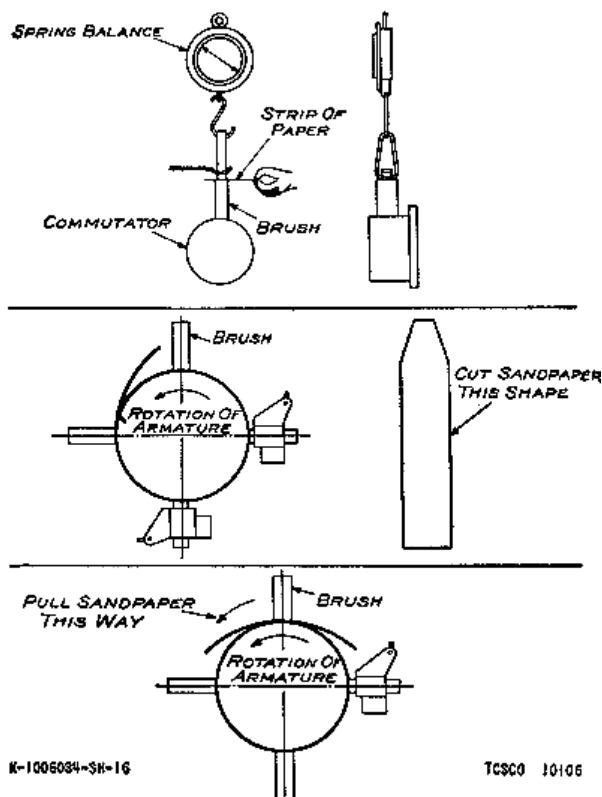

Figure 12. Method of sanding and obtaining brush pressure.
- (4) When a complete set of brushes is to be fitted, and where conditions permit, wrap a piece of sandpaper around the commutator and rotate the armature in the proper direction, the sandpaper being held in place so that it rotates with the commutator. Refer to figure 12 for method of sanding.
- (5) Proper brush pressure should be maintained, as specified in paragraph 80d. It is important that all brushes be adjusted to the same pressure, as unequal brush pressure will cause unequal current distribution in the brushes. Refer to figure 12 for method of measuring the brush pressure.
- (6) Maintain  $\frac{1}{8}$ -inch clearance between the bottom of brushholder and the commutator. The support is arranged in such a way that the brushholder studs may be moved toward the commutator surface as the commutator wears or is turned, so as to maintain the  $\frac{1}{8}$ -inch clearance between the face of